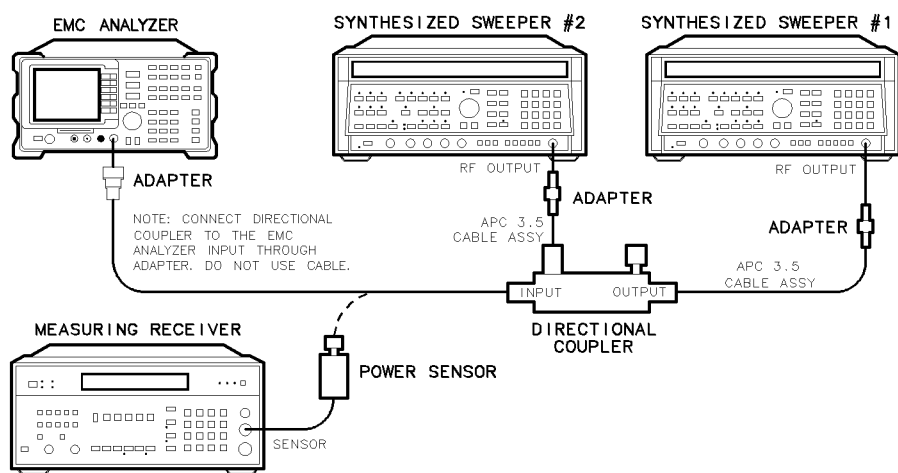

Figure 2-59. Gain Compression Test Setup, HP 8595EM
2. Connect the equipment as shown in Figure 2-59, with the output of the directional coupler connected to the power sensor.
28. Connect the equipment as shown in Figure 2-59.